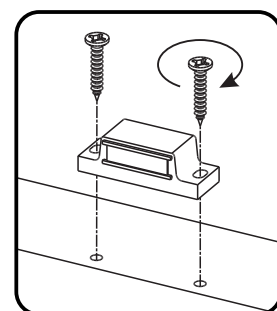

Figure 5
Attach 2 pcs. of **06** to Front Rail (W) by inserting 4 pcs. of **07** into pre-drilled holes, then tighten. (See Figure 5)